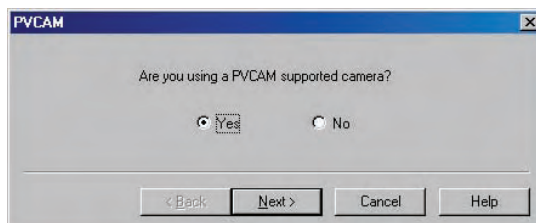

Figure 44. Hardware Wizard: PVCAM dialog box
6. When the PVCAM dialog box (Figure 44) is displayed, click in the **Yes** radio button, click on **Next** and continue through the Wizard. After the Wizard is finished, the **Controller/Camera** tab card will be displayed with the **Use PVCAM** checkbox selected. You should now be able to set up experiments and acquire data.